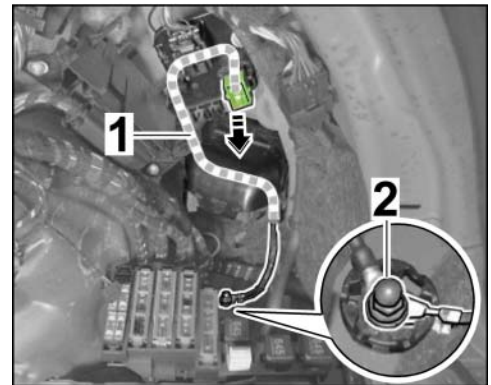

Figure 4
- 2.1.4 Install green pin connector socket (ground line) into the holder from the rear (⇒ *Figure 4 -Arrow-*).
- 2.1.5 Route ground line to ground pin 42 (rear, right) (⇒ *Figure 4*).
- 2.1.6 Install cable ring eyelets onto ground pin 42 and fasten loosely with cap nut (⇒ *Figure 4 -2-*). Another cable ring eyelet will be installed on the ground pin 42 later.
Wire harness for trailer hitch preparation is secured to the main wire harness in the luggage compartment at the right ⇒ *Figure 4 -3-*.